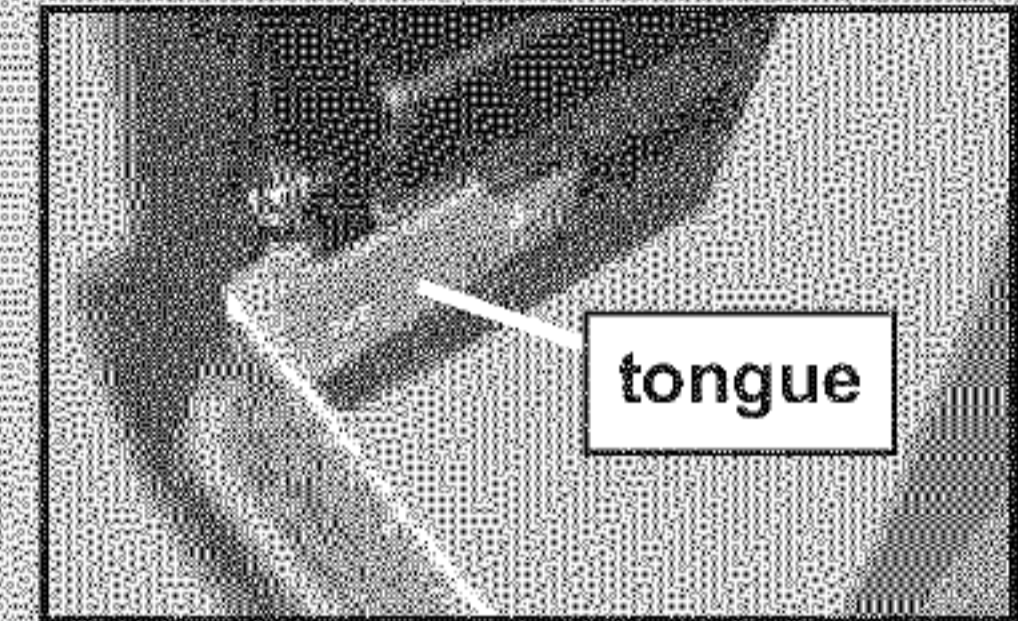

FIG. 3-3 Attaching STB's to brackets.
- Slide source/sensor onto tongue of bracket until it clicks into place (Fig. 3-3).